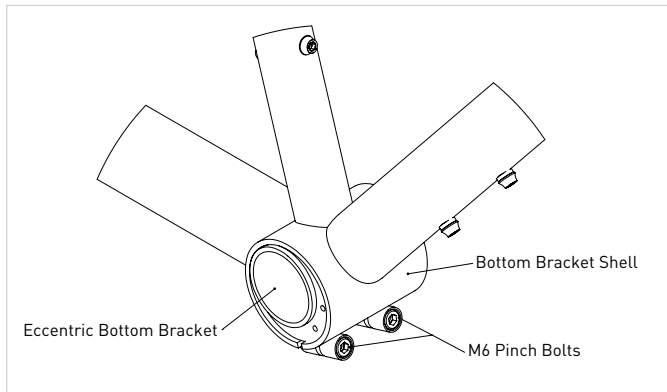

Figure 1
1. Loosen M6 pinch bolts with an M5 Allen tool so the eccentric bottom bracket can rotate freely (Fig. 1).